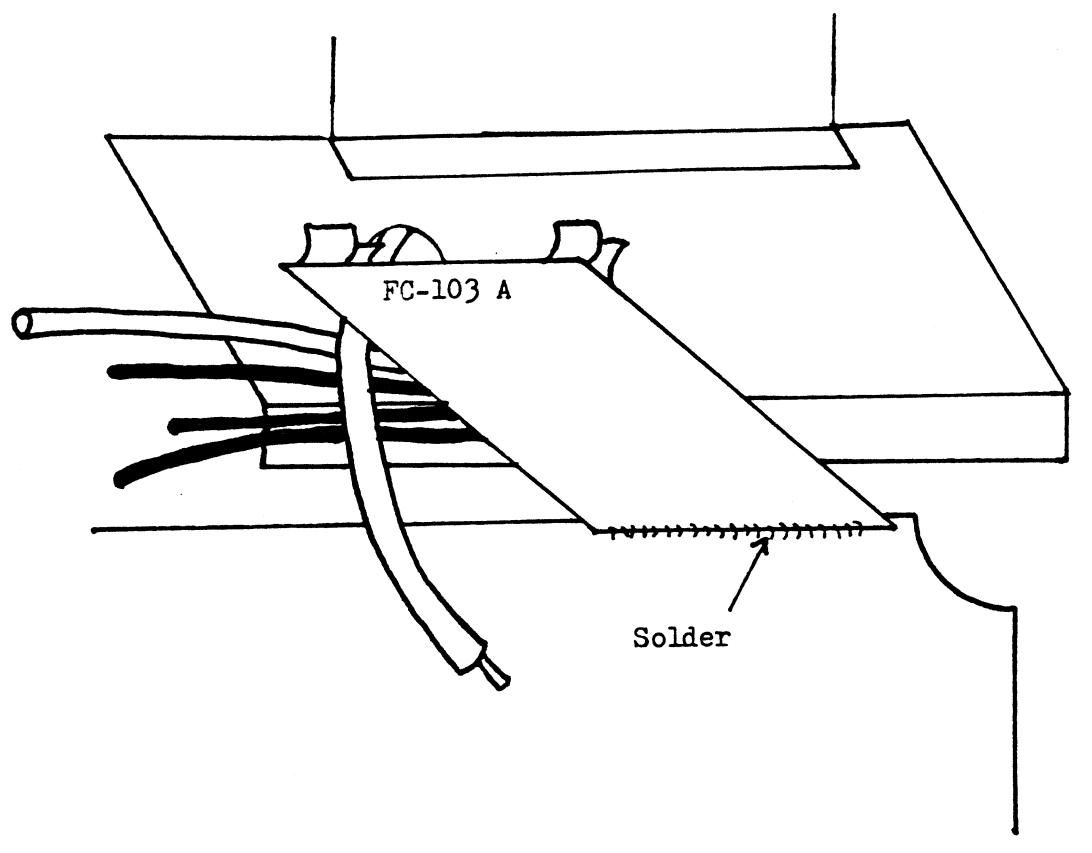

Figure 2.
5. Set receiver upside down on table. Locate FC-103A Buffer Amplifier as shown in figure 2. Component side of buffer board should face receiver tuning capacitor bracket. Wires from component side of buffer should be fed under coax leads from capacitor mounting bracket to receiver P. C. Board. The buffer board should not be exactly vertical, but should be angled away from capacitor bracket at top to allow room to change fuse if ever necessary. Solder buffer board in this location to the ground etch along edge of chassis cutout.